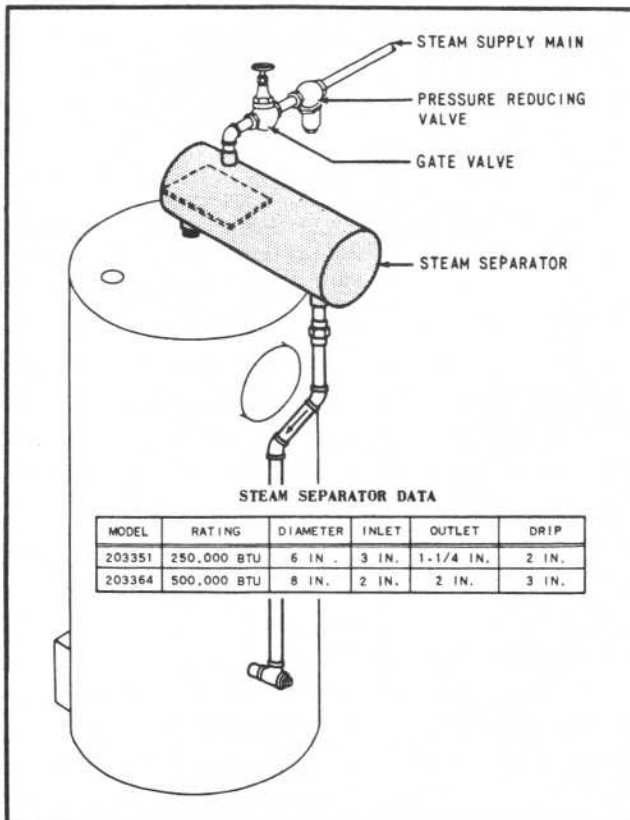

Figure 11 - Steam Separator
e. **STEAM SEPARATORS** - A minimum amount of water flowing through the SelectTemp units and piping is desirable for best operation of the system. Water carry-over from the boiler into the steam main is particularly detrimental to the proper functioning of units, traps, and condensate pump. Most small boilers, below 30 BHP, will tend to carry over considerable water; so that some means of draining off this water before it goes out through the main is necessary. This may be accomplished by providing a steam separator at the boiler. Figure 11 shows typical piping connections and the capacities and dimensions of separators available from the factory. Where the load exceeds the capacity of one separator or where dual